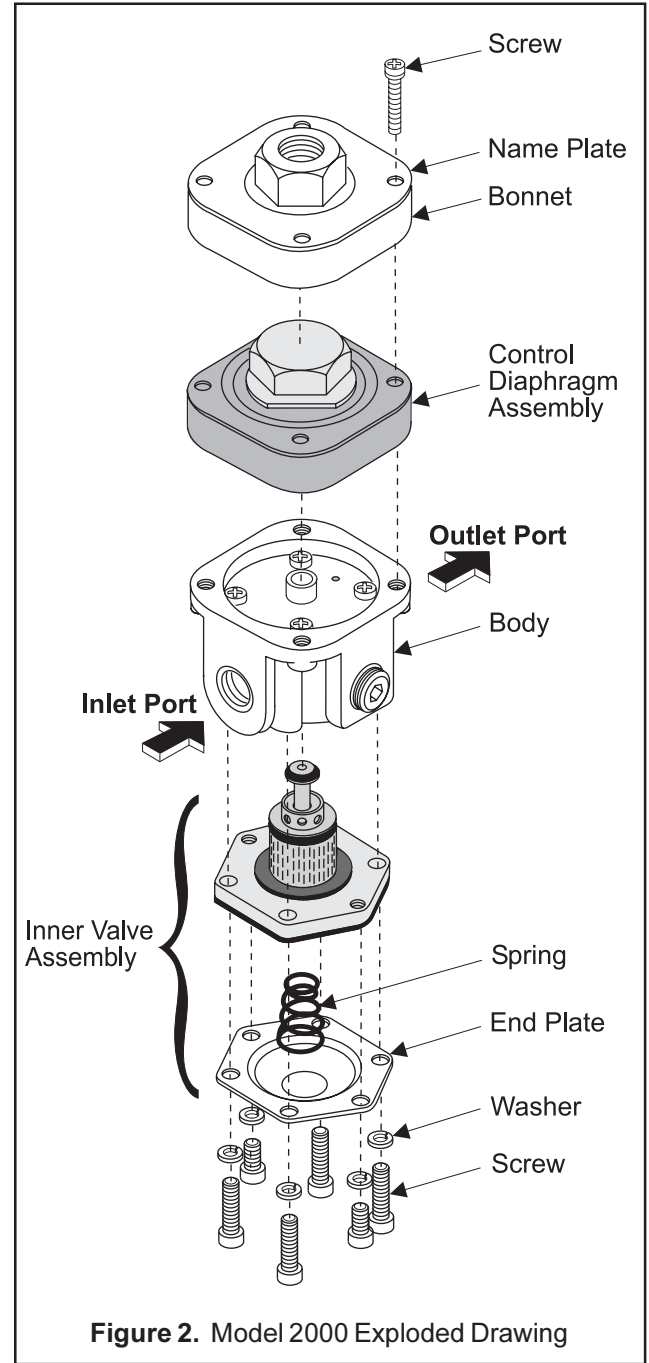

Figure 2. Model 2000 Exploded Drawing
2. Remove the four screws from the bottom of the unit. For more information, see Figure 2.
3. Remove the two screws from the bottom of the Valve Assembly. For more information, see Figure 2.
4. Remove the Valve Assembly. For more information, see Figure 2.
6. Replace the assembly carefully. Ensure that the Exhaust Vents in the Spacer Ring are clear. For more information, see Figure 2.